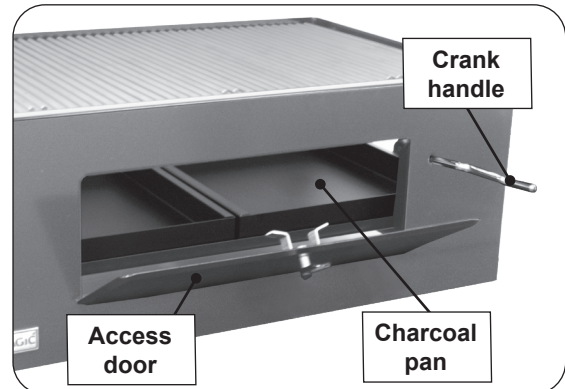

Fig. 14-1
3. Use the access door to add or spread out your coals while cooking (Fig. 14-1).